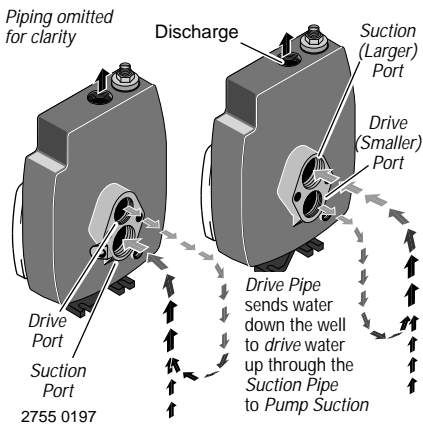
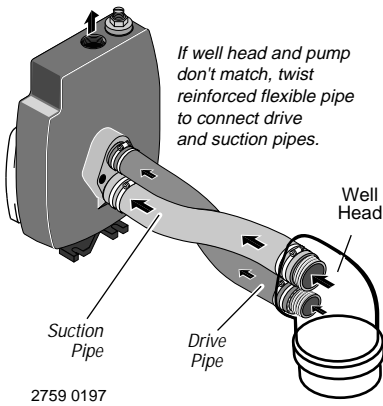

Figure 1: Drive and Suction Functions
Figure 2: Reversed Connections to Well
- Step 2. If your old pump has the suction pipe (the larger port – see Figure 1) above the drive port, you may need to install flexible pipe between the well head and the pump so that the connection will be correct. (See Figure 2).